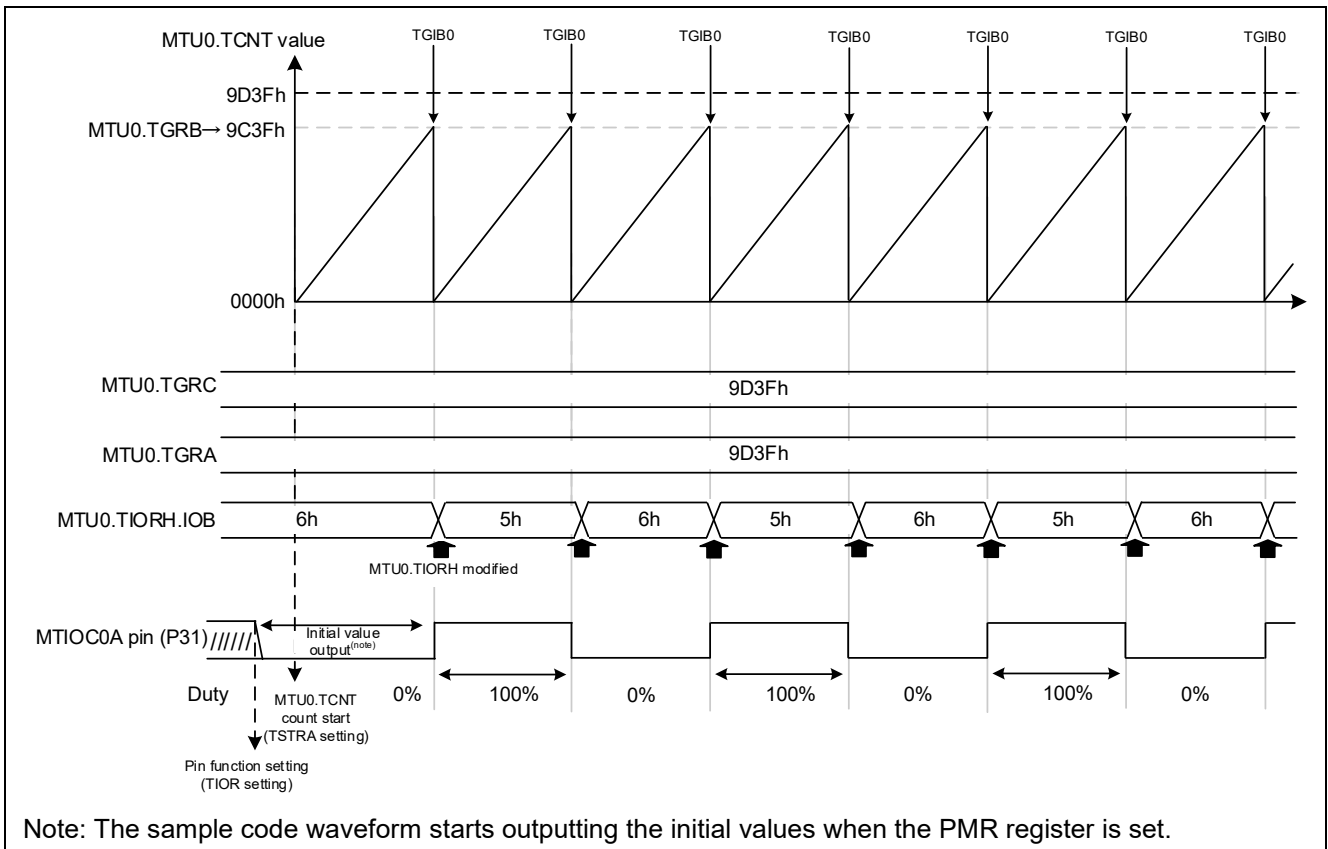

Figure 3.85 Sample Code Operations
- Refer to Figure 3.85 for details on the timing for duty cycle changes.
The sample code operations are shown in Figure 3.85. To ensure the output waveforms are not changed by a compare match of duty register TGRA, the TGRA and TGRC are set to a value greater than that of period register TGRB.
The following shows an example of PWM waveform output with duty cycles 0% and 100%, as shown in Figure 3.85, without using a buffer. Since the buffer register and duty register are not used to switch the duty cycle, the procedure is the same as using a buffer.